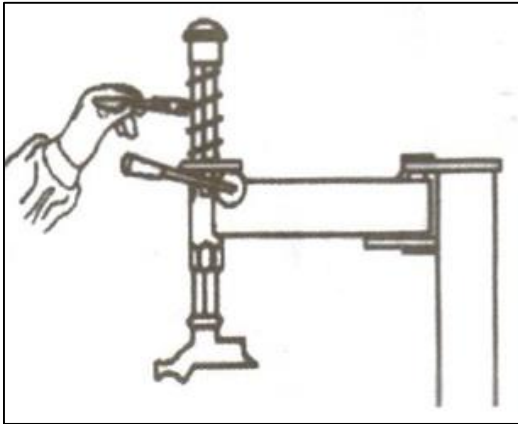

Fig. 25
- Clean hexangular shaft (Fig. 25). Use machine oil to lubricate shaft.